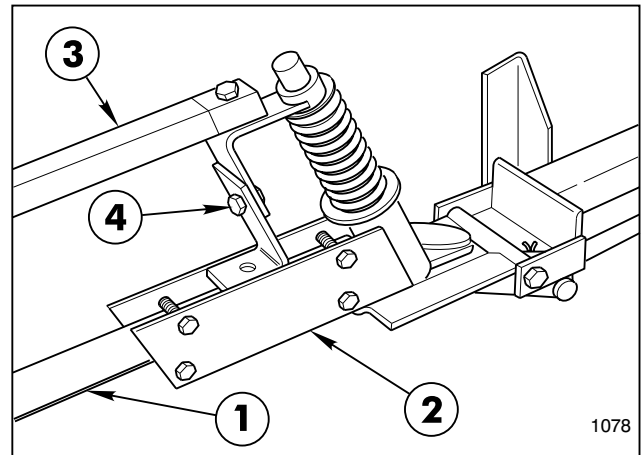

**FIG. 12**
4. Position the spacer tubes between the boom mount upright angles and the lug on the main frame tube. Use (2) 1/2" x 4" hex hd cap screws and locknuts to secure the main frame to the uprights (FIG 12).
6. Center and attach the center boom pipe to center boom angles with two clamps, 3/8" x 1" hex hd cap screws, washers and lock nuts. See FIG. 12.
1. Loosely attach the double barb turret assembly in the approximate center of the center boom pipe. For most uniform spray coverage, position all turret assemblies as shown in FIG 12.
2. Loosely attach a single barb turret assembly to LH end of the center boom pipe. Loosely attach threaded turret assembly to RH end of the center boom pipe. Place two hose clamps on the two 3/4" x 19" jumper hoses and connect the two "end" turret assemblies to the double barb turret assembly. Turret assemblies should be level and spaced on 20" centers. Install 90° 3/4" hose barb on RH turret assembly. Tighten all fasteners securely (FIG. 12).
3. Attach the strut assemblies to the adjustable clevis assemblies found on each side of the main frame tube with (2) 1/2" x 2" clevis pins and (2) 1/8" x 1" cotter pins. See FIG. 12.
8. At the adjustable clevis assemblies (FIG. 12), adjust the booms to the level position by adjusting the jam nuts to the desired position, then tighten the end nuts against the boom frame support member.